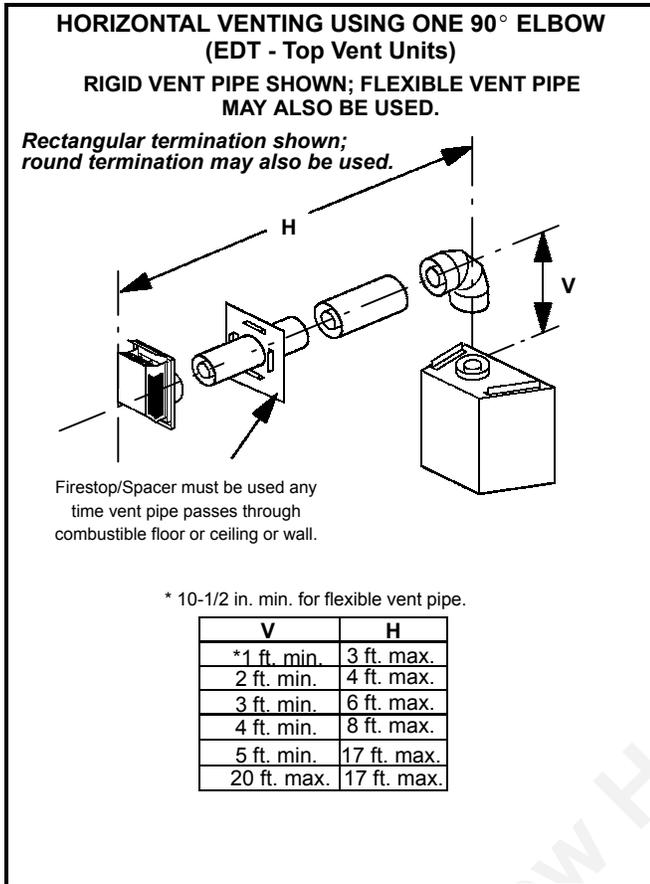

FIGURE 23
EDT Applications - See figures 23, 24, or 25 for vent length requirements using concentric vent pipe.
- 5 - The longest length of flexible vent pipe available is 48 inches, measured when in its compressed form. Flexible vent pipe may not be applicable in every venting configuration depicted in figures 23, 24, 25, 27, and 28, depending on the total vent length required.